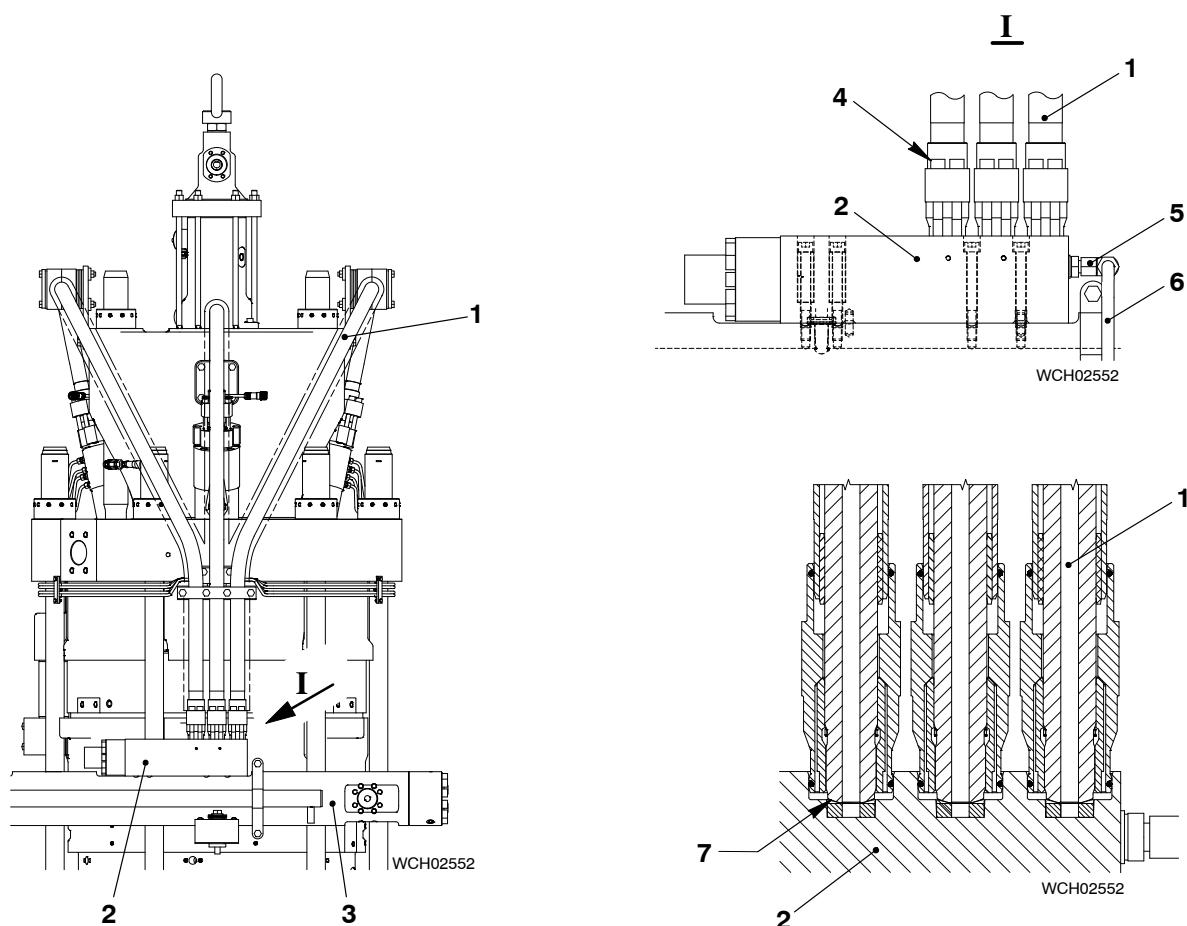

Fig. 3: Leakage Inspection Point – HP Fuel Pipes to Injection Valves
- 1) On the fuel leakage pipe (6, Fig. 3), carefully loosen the screw-in union (5) approximately two turns.
- 2) Do a check for fuel flow. If there is no fuel flow from the screw-in union (5) do the procedure given in paragraph 4.4.
- 3) If fuel flows from the screw-in union (5), do step 4).
- 4) Make sure that the screws (4) are tightened correctly to 60 Nm as follows:
- 5) Do a check for fuel. If fuel continues to flow, an HP fuel pipe (1) is defective.